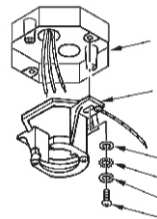

Fig.11
Step 4: Secure the hanger bracket to the ceiling outlet box using screws included with your outlet box and washers included with the fan. (Fig. 11)